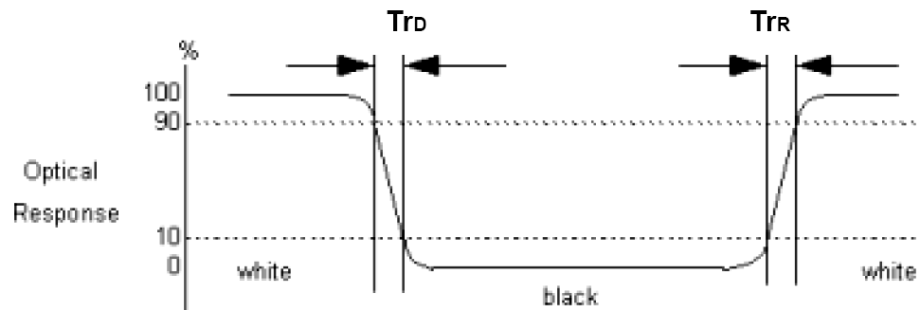

Fig.4-3 Response time
4. Response time is the time required for the display to transition from white(L255) to black(L0) (Decay Time, $\text{Tr}_\text{D} = \text{Tf}$) and from black(L0) to white(L255) (Rise Time, $\text{Tr}_\text{R} = \text{Tr}$). For additional information see Fig. 4-3.